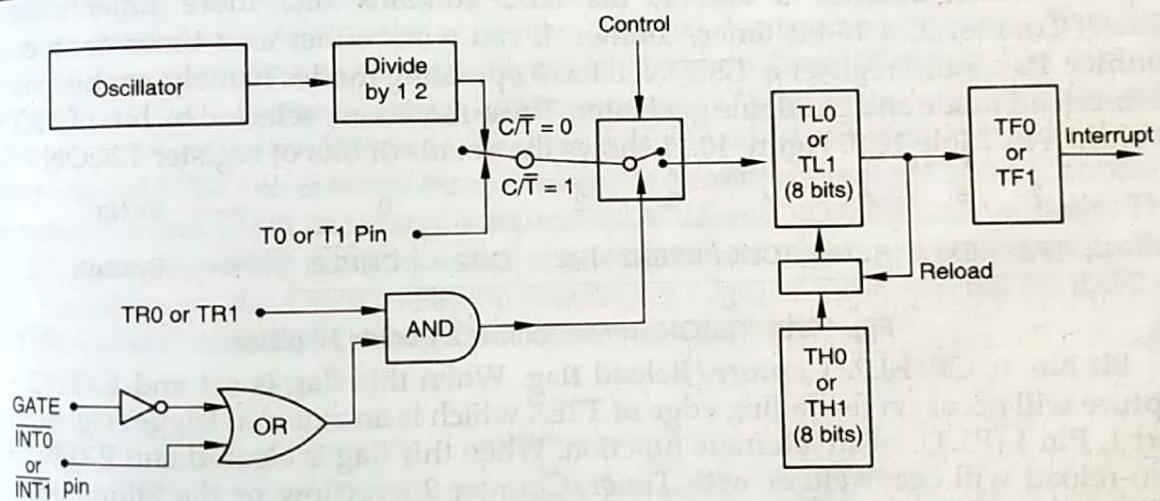

Fig. 10.9 Timer/Counter 0 and 1 in Mode 2 Operation: 8-Bit Auto Reload
**Mode 2.** This mode is same for Timer/Counter 0 as well as Timer/Counter 1. In this mode the timer/counter register TL0 or TL1 is made an 8-bit counter with automatic reload. The overflow from TL0 (or TL1) sets TF0 (or TF1) and it also reloads TL0 (or TL1) with the contents of TH0 (or TH1) which is preset by software. Figure 10.9 shows Timer/Counter 0 and 1 in Mode 2 operation. TH0 (or TH1) remains unchanged after reloading.